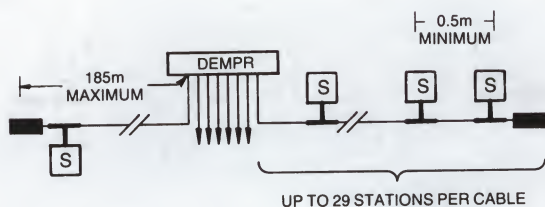

Figure A-4 ■ Stand-alone DEMPR with ThinWire Cables
- One to eight ThinWire cables can be attached to a DEMPR. (See Figure A-4.)